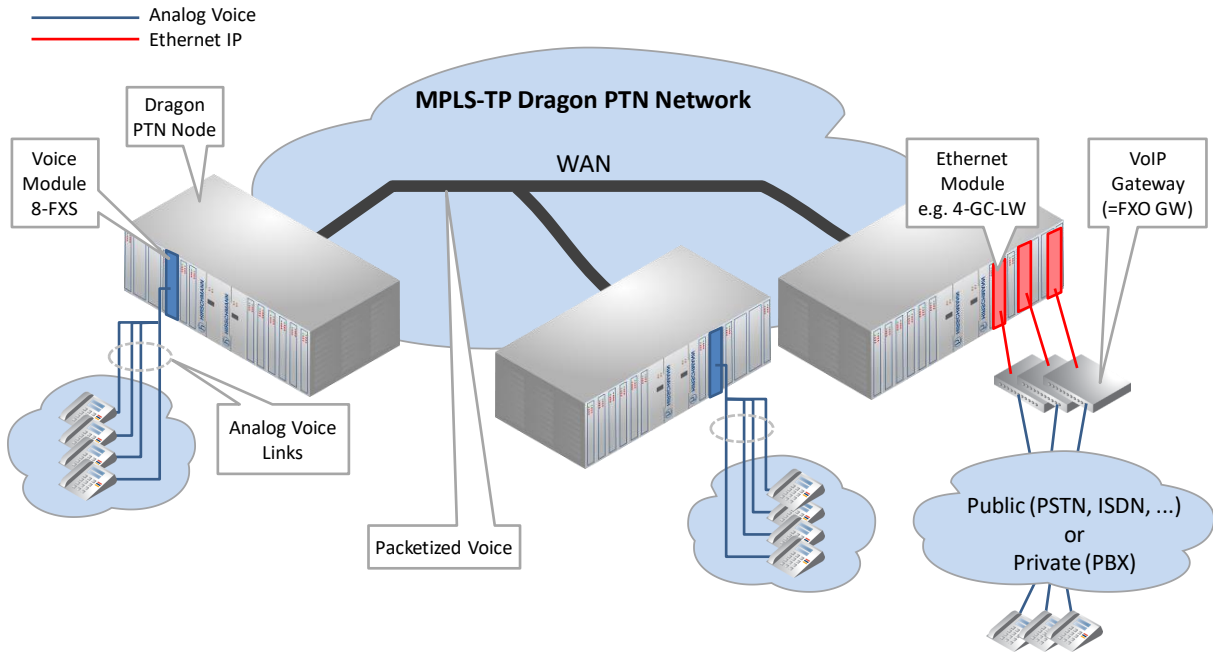
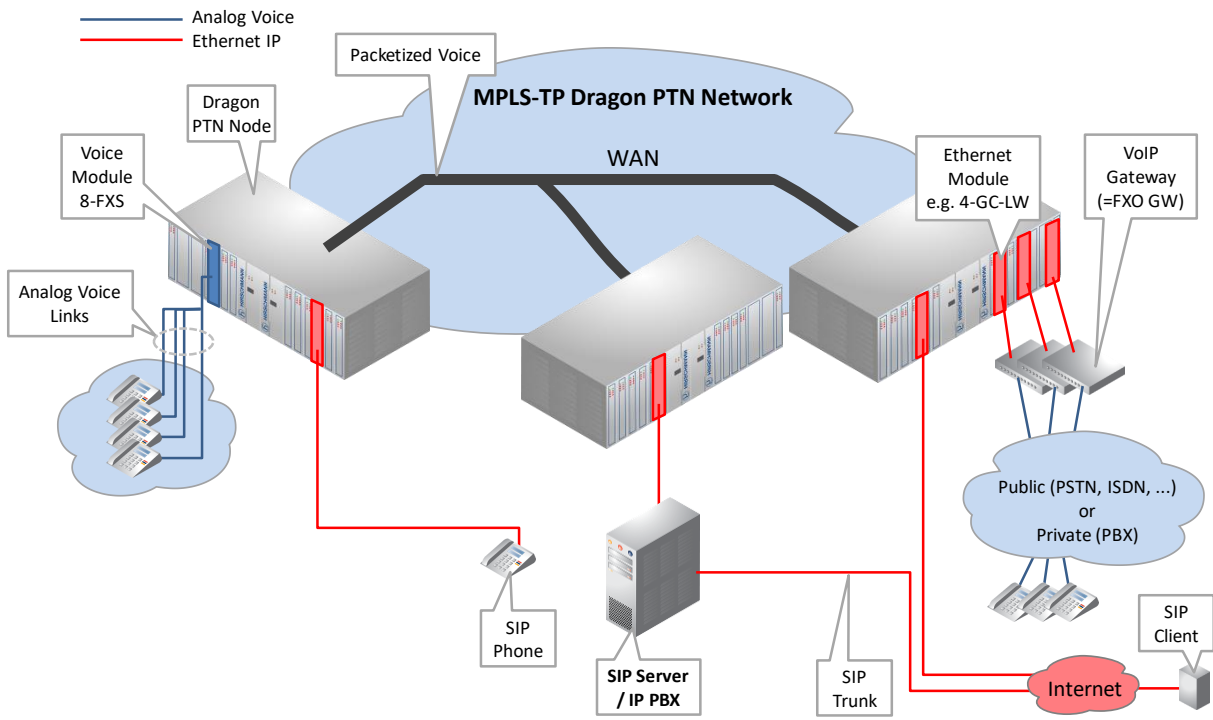

Figure 1 Analog Voice Example: Remote Extension
Figure 2 Analog Voice Example: SIP Server
An application network can be connected to the MPLS-TP Dragon PTN network via one of the 8 FXS interface ports. The 8-FXS module can interface with 8 analog telephone lines. In Figure 1 and Figure 2, a common functional setup is shown.
- ▶ See Figure 1: connections between FXS \leftrightarrow VoIP Gateway (=FXO-GW);